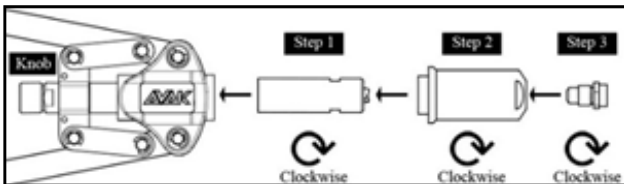

Figure 1: Installing accessories for fastening rivet
- Install the accessories as illustrated in Figure 1 with the handles closed. Secure the accessories with correct rotation as indicated below each of the accessories.